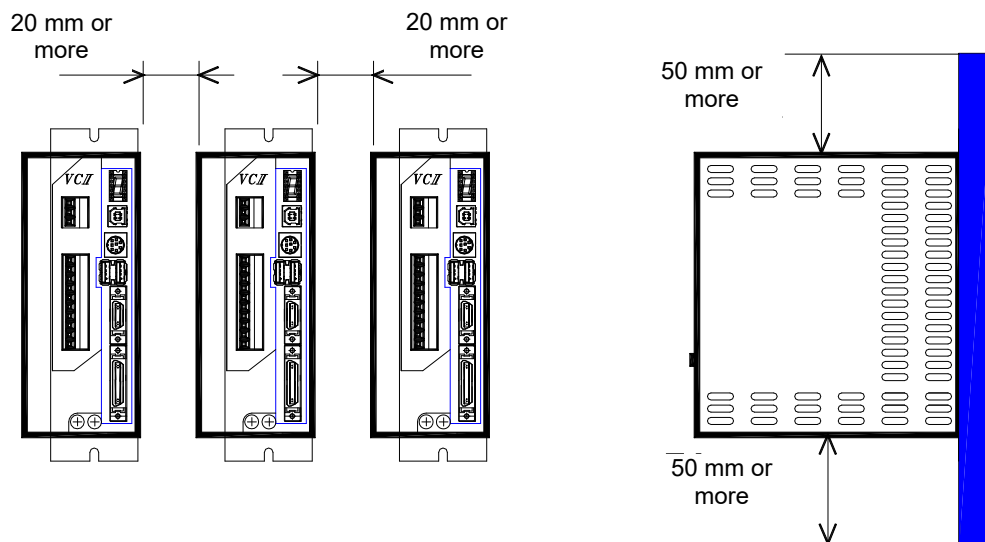
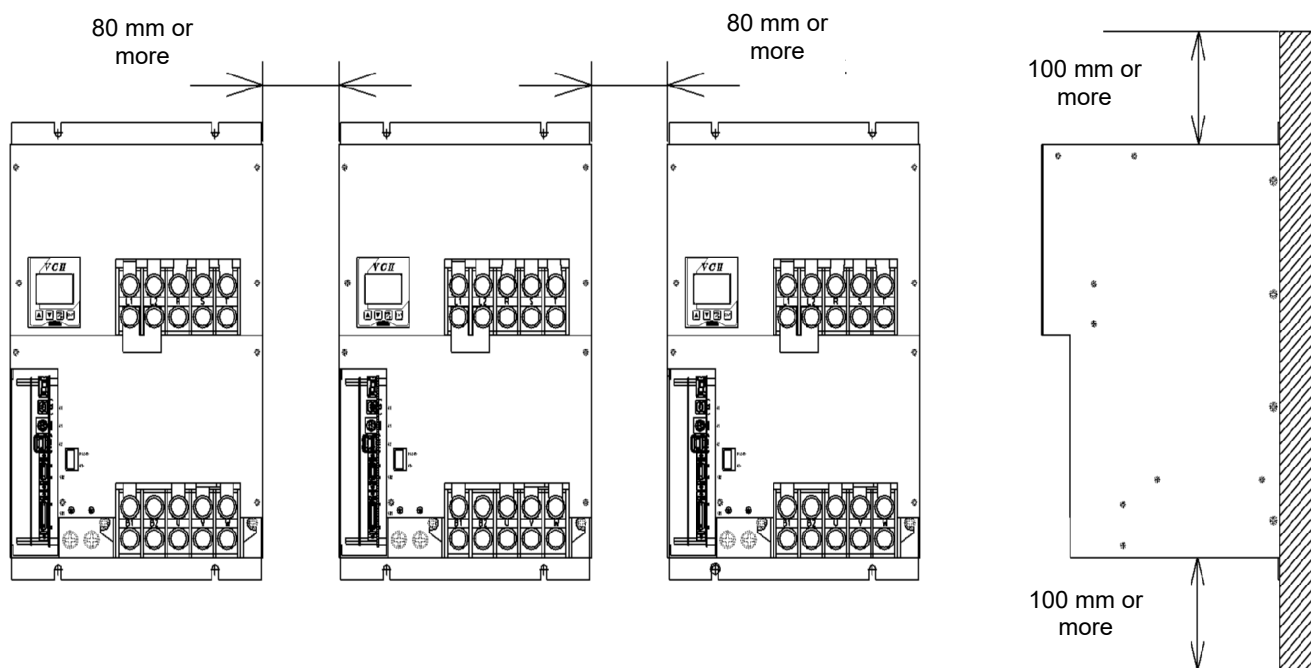

Figure 2-2 Installation and ventilation for a device of 15kW (11kW) or less product
Figure 2-4 Installation and ventilation for a device of 20kW (15kW) or more product*⁴
- (1) Be sure to install the device in the vertical direction to secure normal heat radiation effect.
- (2) Space around the device must be secured with the designated distance appointed by Figure 2-2 or Figure 2-4 (distance from other components or parts and a side wall of the control panel) in view of heat radiation efficiency and maintenance easiness.
*⁴ Above Figure 2-4 shows a 20kW device as references.